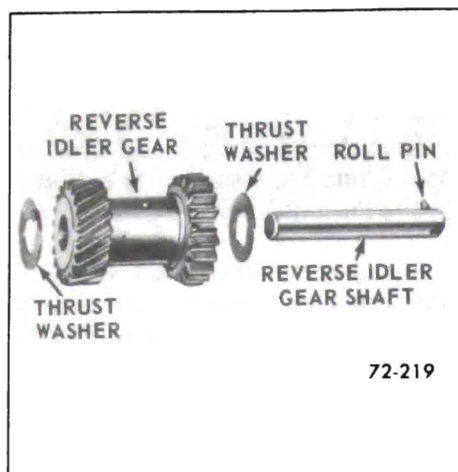

Figure 72-219 - Exploded View of Reverse Idler Gear
1. Install reverse idler gear, with a thrust washer on each end in case. Make certain that roll pin is seated in slot in back face of case. See Figure 72-219.